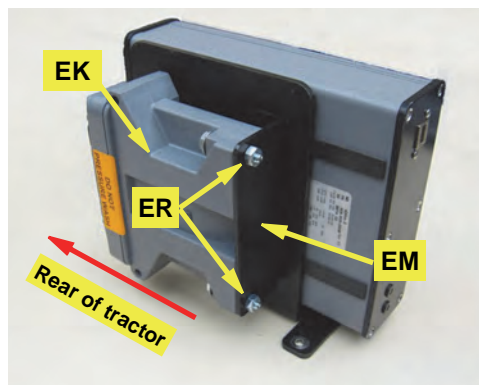

Figure 1d: Installed steering controller
- e. Using hardware **ER**, attach steering controller **EK**, connectors rearward, to its bracket **EM** (Figure 1d).